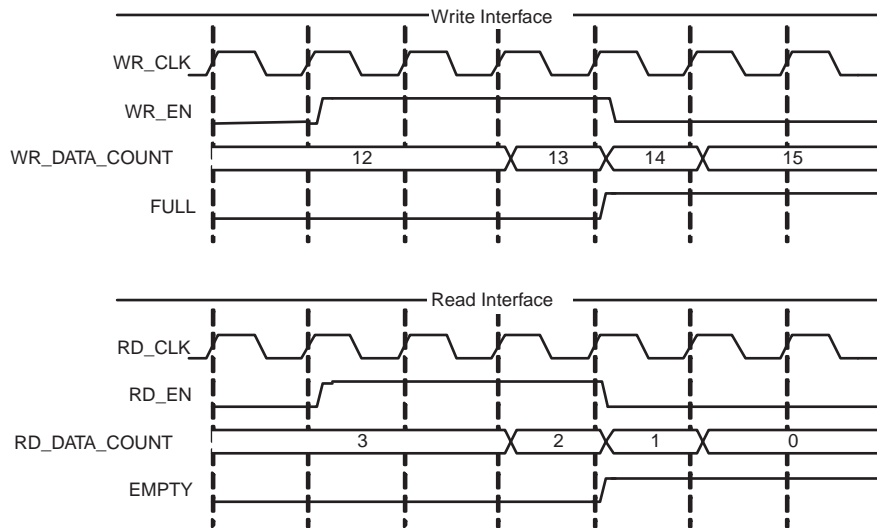

Figure 3-12: Write and Read Data Counts for FIFO with Independent Clocks
Figure 3-12 shows write and read data counts. When WR\_EN is asserted and FULL is deasserted, WR\_DATA\_COUNT increments. Similarly, when RD\_EN is asserted and EMPTY is deasserted, RD\_DATA\_COUNT decrements.
**Note:** In the first part of Figure 3-12, a successful write operation occurs on the third rising clock edge, and is not reflected on WR\_DATA\_COUNT until the next full clock cycle is complete. Similarly, RD\_DATA\_COUNT transitions one full clock cycle after a successful read operation.